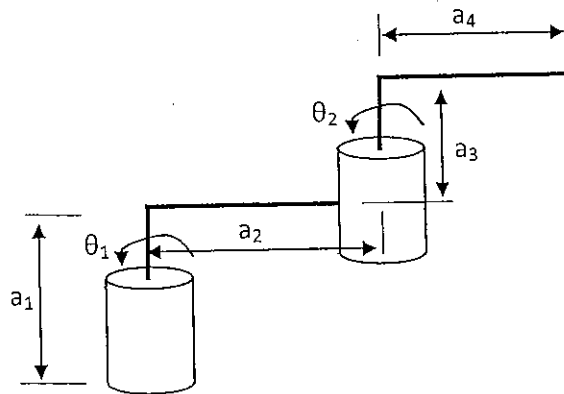

Figure 02
- Figure 02 represents a kinematic diagram for a 2 degree of freedom manipulator. Find the inverse kinematic equations. (You may use the geometrical approach in finding the solution.)